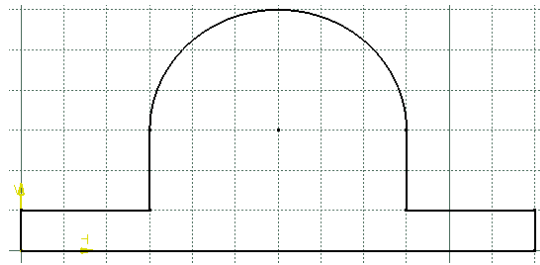

Figure 2-45 The sketch after drawing the outer loop
- Draw the sketch of the model using the **Profile** and **Circle** tools, refer to Figures 2-45 and 2-46.
The sketch after drawing the outer loop is shown in Figure 2-45. In this figure, the constraints are hidden for better visualization.